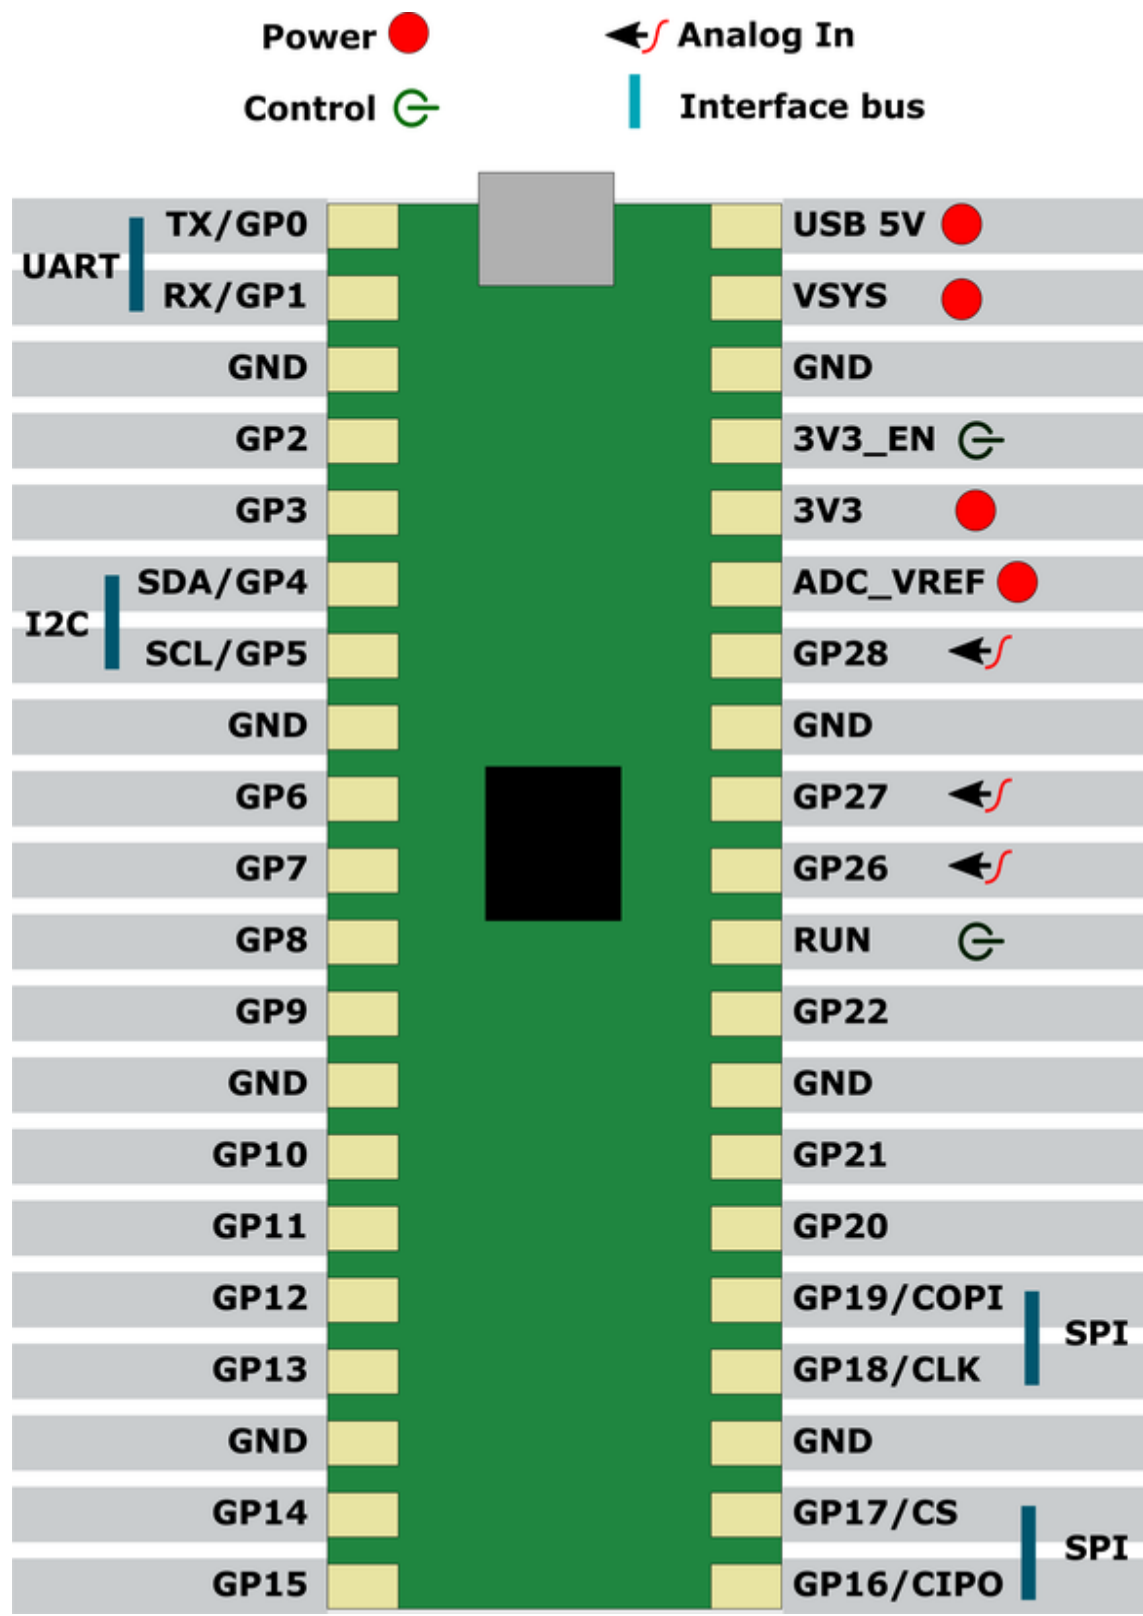

Figure 19-9. The Raspberry Pi Pico and Pico W pinout
**Figure 19-9** shows the pinout of the Raspberry Pi Pico. This is the same for the Pico W.
Referring back to Figure 19-9, all of the GPIO pins can be used as digital outputs, although pins 12, 13, 14, 15, and 16 have the advantage of being near the end of the breadboard with more free rows nearby if the Pico is positioned at the top of the breadboard.